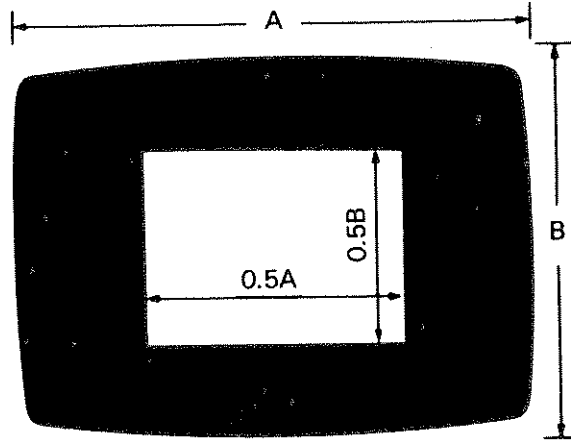

Figure 5.19
5.7 Window Pattern (See Figure 5.19, 5.20 and 5.21)